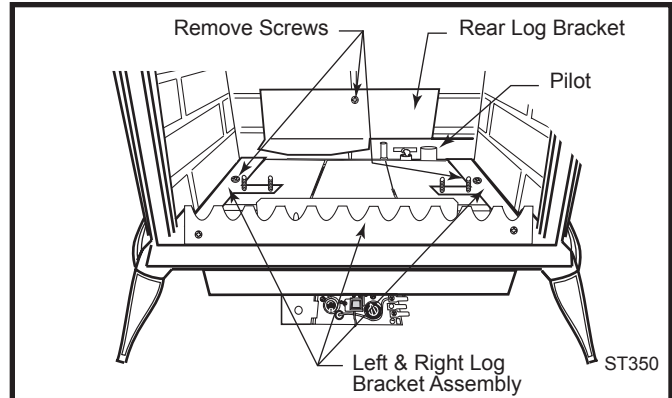

Fig. 53 Remove the rear log bracket and left and right log bracket assembly.
5. Remove the rear log bracket by unfastening the screw. (Fig. 53)
6. Remove the right and left log bracket assembly by unfastening the two screws which hold the burner in place. (Fig. 53)
1. Locate pilot. (Fig. 53)